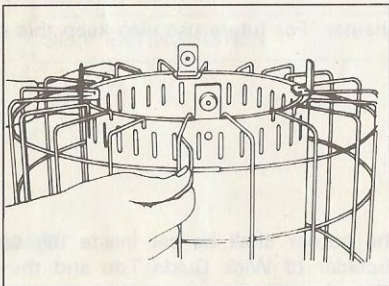

Fig. 4
- (3) Set both handle ends as shown in Fig. 4 (Note: do not set handle ends to holes of casing)